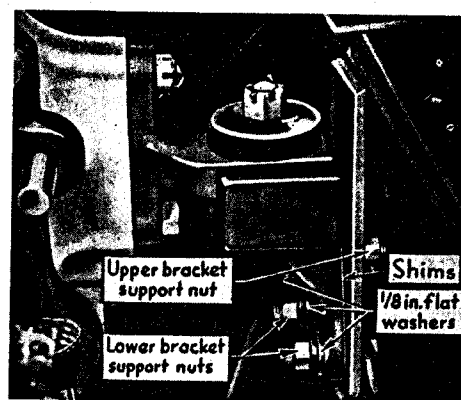

Fig. 21. The intermediate support bracket on the Cadillac engines should be tightened to the frame as the final operation in adjusting the engine supports
7. Tighten nuts on through bolt in intermediate supports to take up all clearance of parts, then give nut $\frac{1}{2}$ turn more and lock. See Fig. 21.